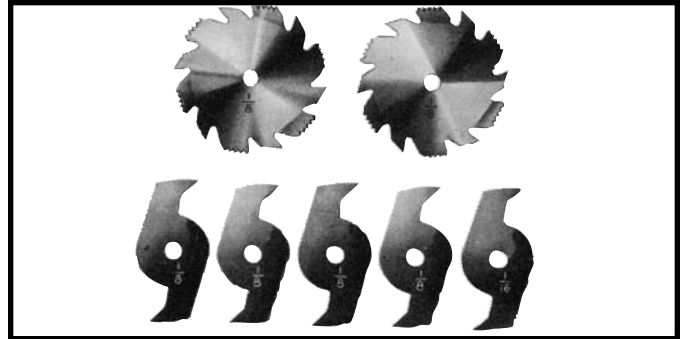
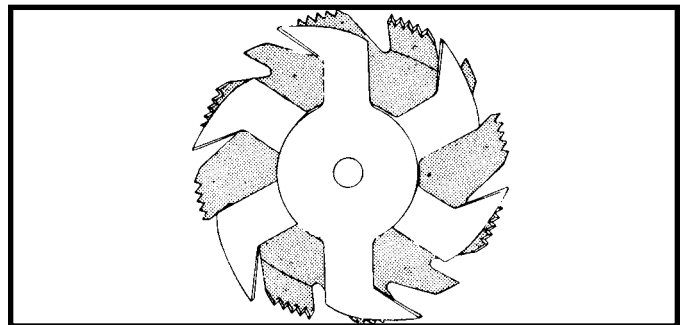
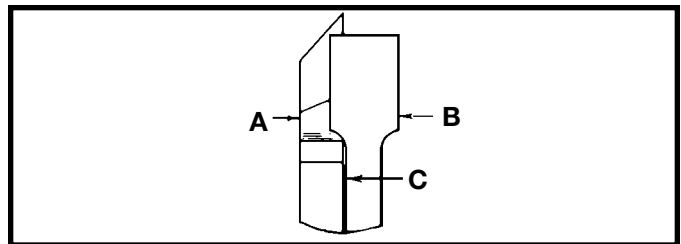

Fig. 130
Fig. 131
Fig. 132
Dadoing is cutting a rabbet or wide groove into the work. Most dado head sets are made up of two outside saws and four or five inside cutters, as shown in Fig. 130. Various combinations of saws and cutters are used to cut grooves from 1/8" to 13/16" for use in shelving, making joints, tenoning, grooving, etc. The cutters are heavily swaged and must be arranged so that this heavy portion falls in the gullets of the outside saws, as shown in Fig. 131. The saw and cutter overlap is shown in Fig. 132, (A) being the outside saw, (B) an inside cutter, and (C) a paper washer or washers which can be used as needed to control the exact width of groove. A 1/4" groove is cut by using the two outside saws. The teeth of the saws should be positioned so that the raker on one saw is beside the cutting teeth on the other saw.